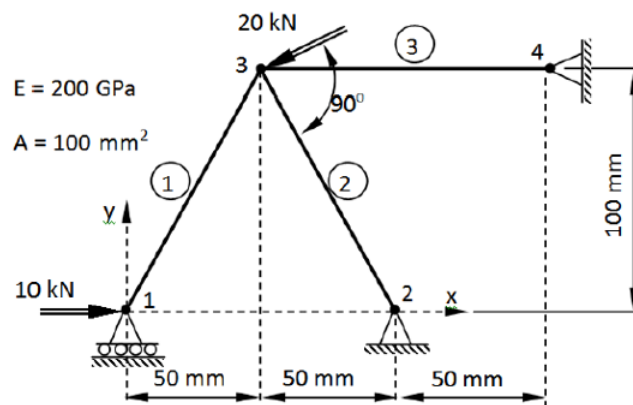

FIGURE 2B
- 2B. For the truss configuration shown in **figure 2B**, setup global $\{F\} = [K] \{Q\}$ relationship 03 M and apply all boundary conditions.